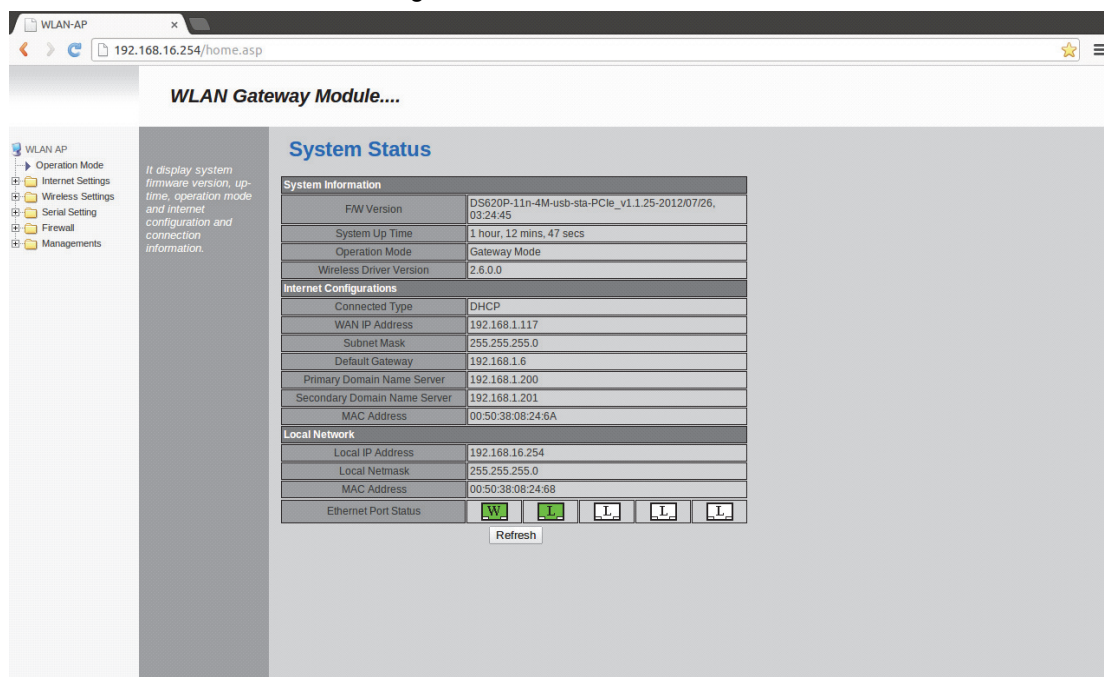

Figure 7 Coast Station network configuration home screen
- Access to the configuration interface is now available in the web browser. The initial menu and status screen will be as shown in Figure 7.